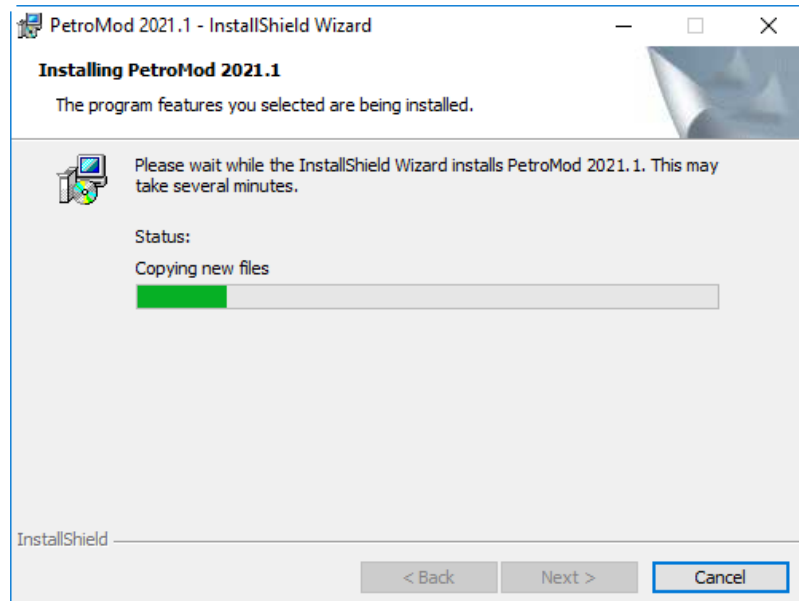

Fig. 3-5 Installation progress
- 6 You can follow the progress of the installation in the InstallShield Wizard (Fig. 3-5).